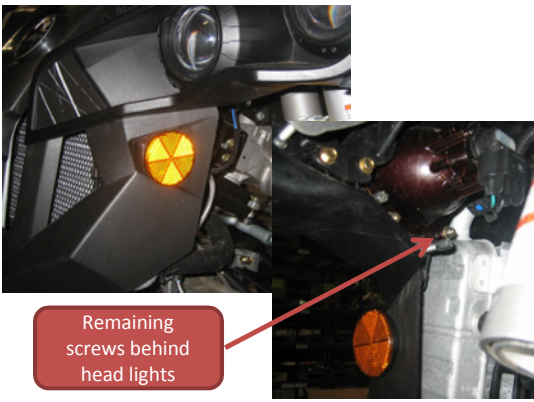
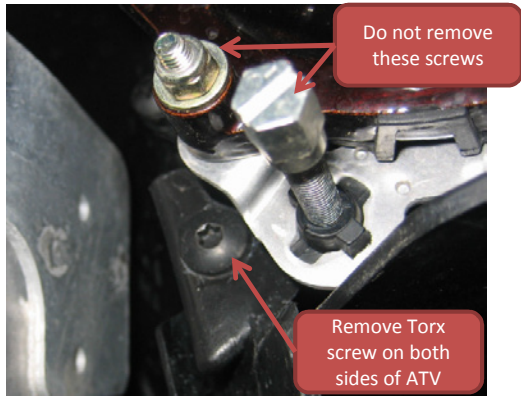

Figure 9
Figure 10
- The two remaining bolts located behind the head lights are difficult to find. They are located below and to the right of the head light case when viewing the lights from the viewpoint shown in Figure 9. Refer to Figure 10 for a close up view of the torx screw.
- Figure 10 shows the right side head light (opposite of the head light shown in Figure 9). There are two visible screws with the torx screw tucked behind them. Remove the torx screw.